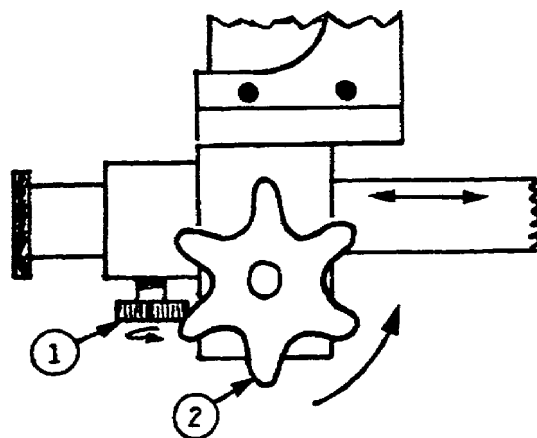

Figure 1-34. Carriage Knobs.
(2) Next you loosen the front and rear carriage lock knobs 1 (fig 1-34) enough to allow the front and rear carriages to slide on the monorail bed when the front and rear carriage adjust knobs 2 are rotated.